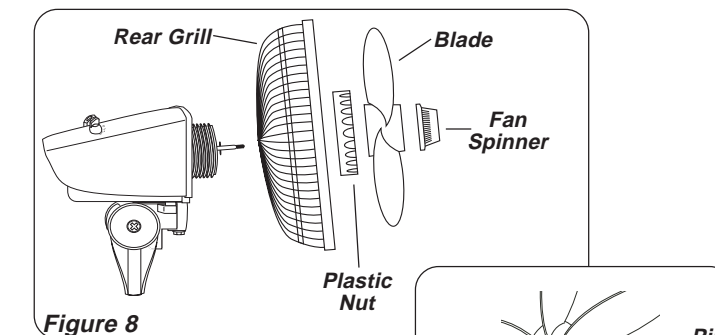

Figure 8
3. Fully seat **Rear Grill** and secure with **Plastic Nut** turning Clockwise. Slide **Blade** onto **Motor Assembly Shaft**. (Figure 8) Align **Groove** on blade hub with **Pin** on motor assembly shaft. (Figure 8A)